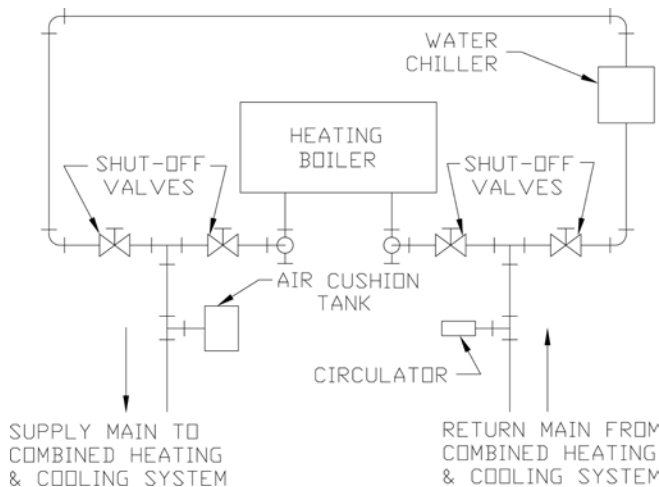

Figure 6: Recommended Piping for Combination Heating & Cooling (Refrigeration) Systems
- C. If this boiler is used in connection with refrigeration systems, the boiler must be installed so that the chilled medium is piped in parallel with the heating boiler using appropriate valves to prevent the chilled medium from entering the boiler, see Figure 6. Also consult I = B = R Installation and Piping Guides.